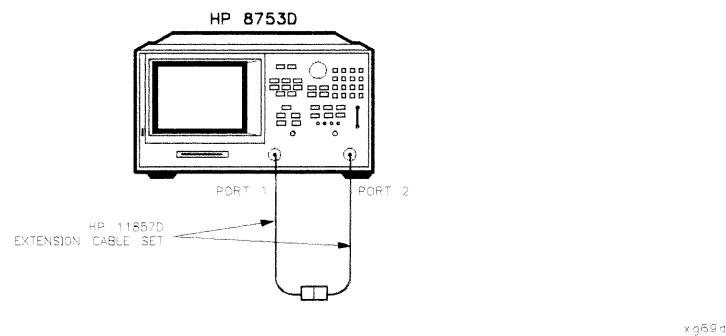

Figure 2-9. Transmission Calibration Setup
25. Connect the test port cables together as shown in Figure 2-9.